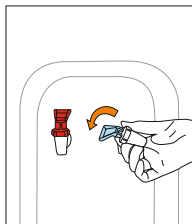

Figure 36
6. Remove the faucets from the reservoir elbows by turning them counter-clockwise (Figure 36)